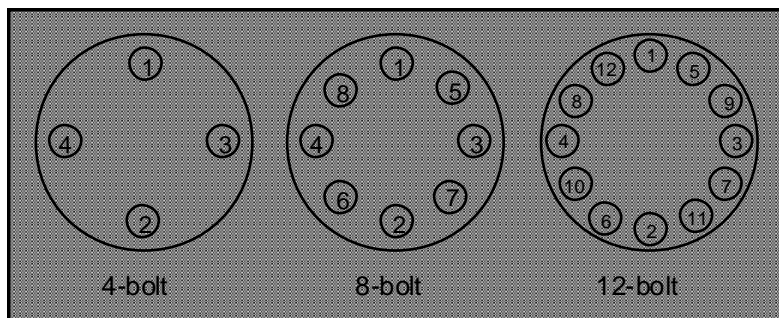

Figure 6 Flange Bolt Torquing Sequence
4. Place the remaining studs between the pipe flanges. Tighten the nuts in the sequence shown in Figure 6 Check for leaks after tightening the flange bolts.